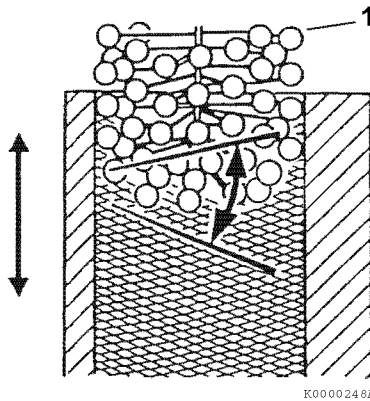

Figure 6-83
*Note: When honing a cylinder, with either a ridged hone or a ball hone (**Figure 6-83, (1)**), move the rotating hone up and down in the cylinder bore to accomplish a 30 to 40° crosshatch pattern (**Figure 6-83**). This will provide the ideal surface for the proper seating of new piston rings.*